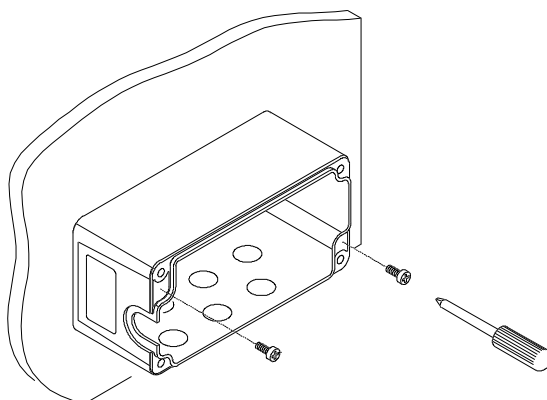

Figure 2.7 - Mounting JBOX
- 2) Align the JBOX on the panel pilot holes, insert the two self-threading screws with their washers through the JBOX, and screw them into the panel until tight (see Figure 2.7) and the JBOX is securely fastened.